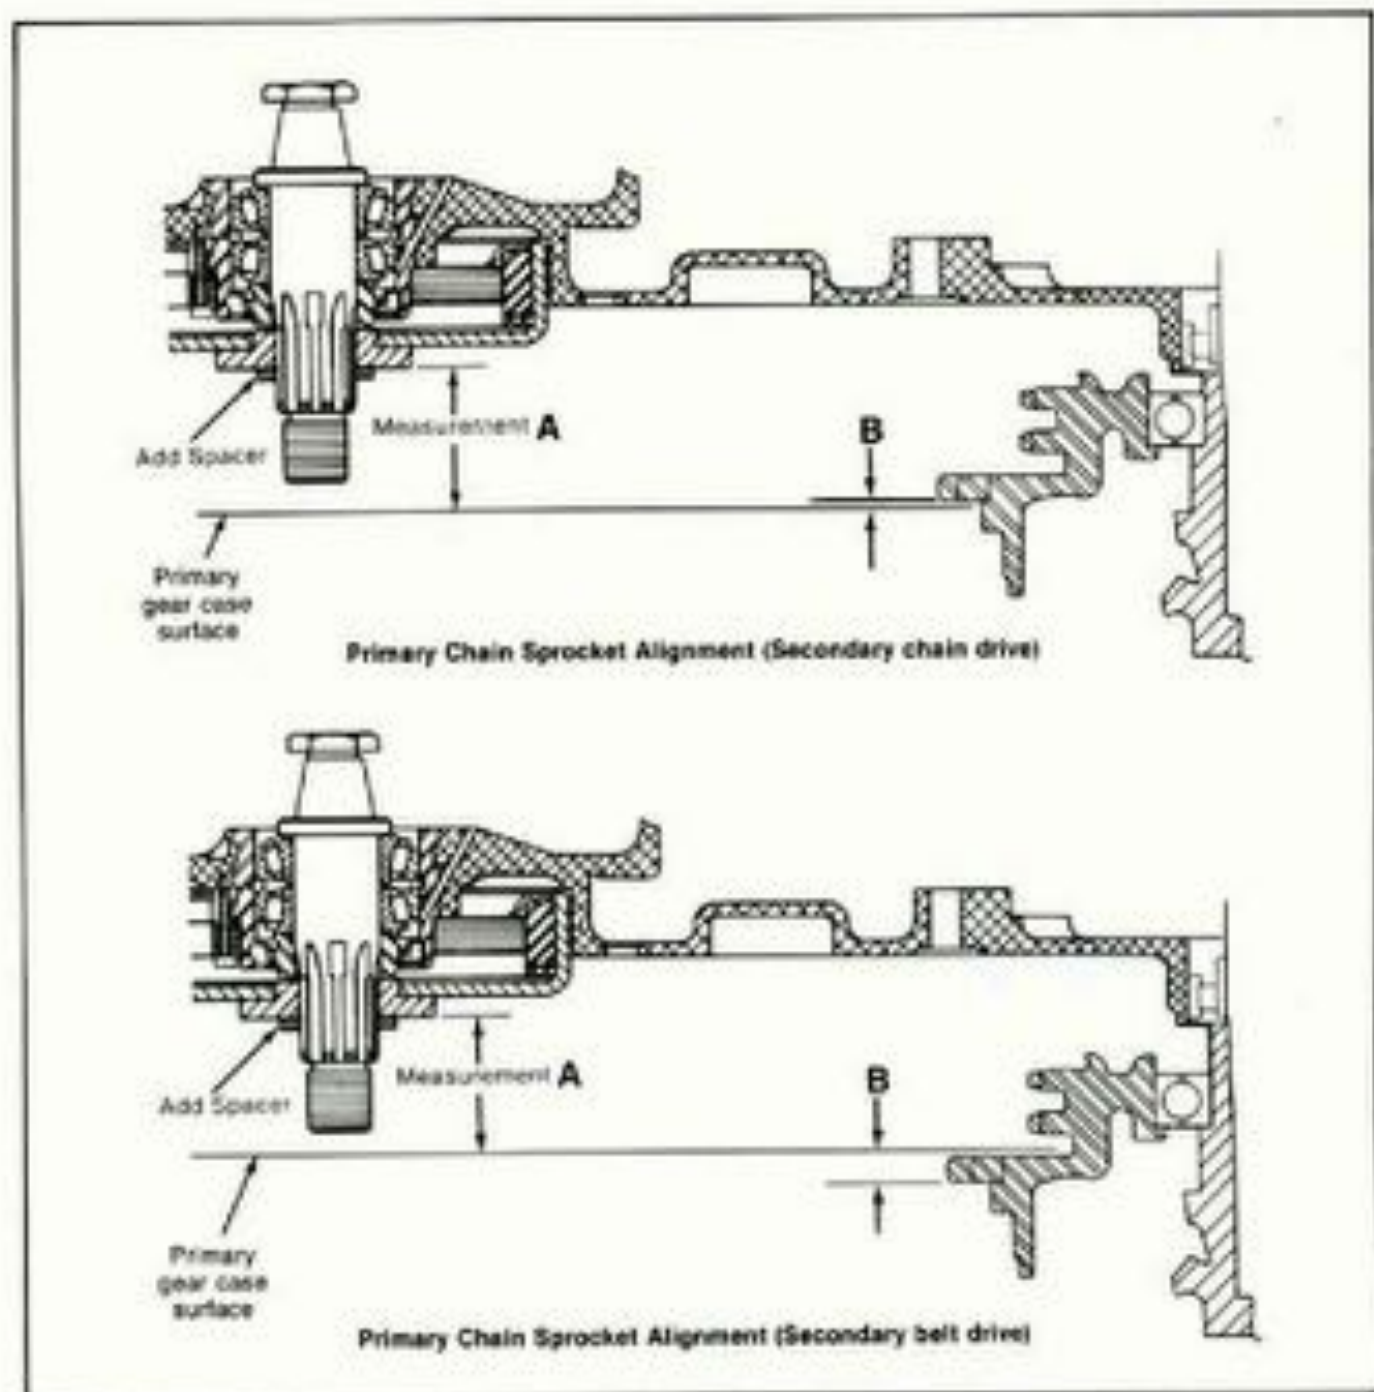

Figure 6-4. Chain Sprocket Alignment
2. See Figure 6-4 or 6-5. Disassemble components of compensating sprocket
2. See Figure 6-4. Apply grease to cam lobes (4 and 5).
## Sprocket Alignment Wet Clutch (Figure 6-4)